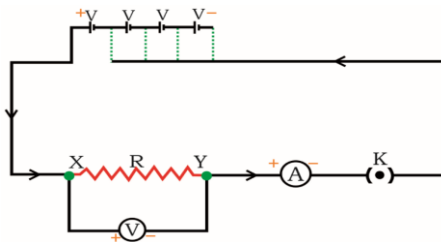

Fig. 2.18 Circuit diagram of Ohm's law
Step 1. Set up a circuit as shown in Figure 2.18, consisting of a nichrome wire XY of length, say 0.5 m, an ammeter, a voltmeter, and four cells of 1.5 V each. **(Nichrome is an alloy of nickel, chromium, manganese, and iron metals.)**